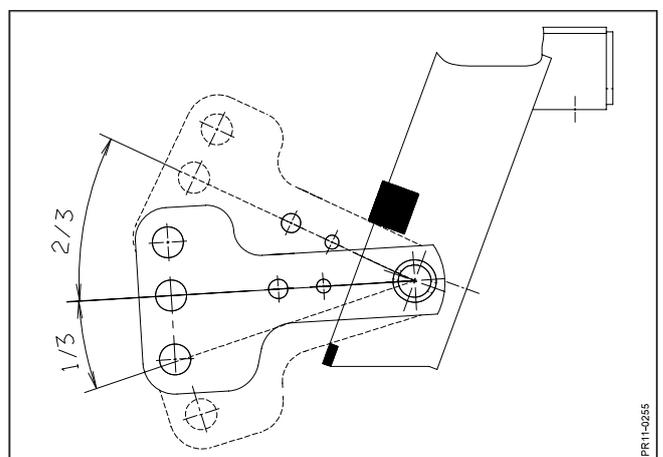

Fig. 2-24
**Fig. 2-24:** Check that the lever arm can move approx. 1/3 downward and approx. 2/3 upward when the cutting unit rests on the ground and the suspension is in working position to make sure that the machine has sufficient ground following ability. Adjustment is made by raising or lowering the right lift arm in proportion to the left